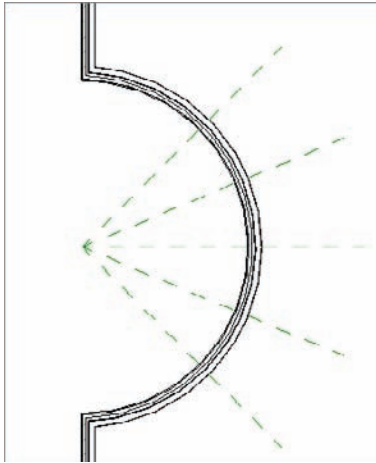

FIGURE 4.16 You can control the number of items in an array group after you create the array.
17. You now have five reference planes, as shown in Figure 4.16.